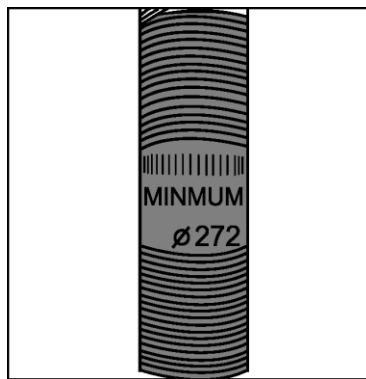

Figure 1: Handlebar or seat post
- **Handlebar and seat post: see figure1.** A rippled line is engraved in the seat and handlebar post. This is the minimum length that the seat post should remain in the frame or the handlebar post in the steering column.